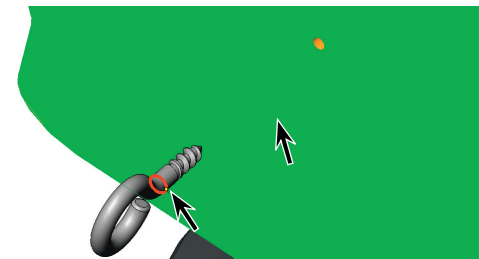

Fig. 46
Step 4. Click Add/Finish Mate  in Mate pop-up toolbar to add a **Concentric** mate, Fig. 46.
Step 5. If necessary, click **Mate**  on the Assembly toolbar. Click **bottom face of the body** and **round edge of the eye screw**, Fig. 46.